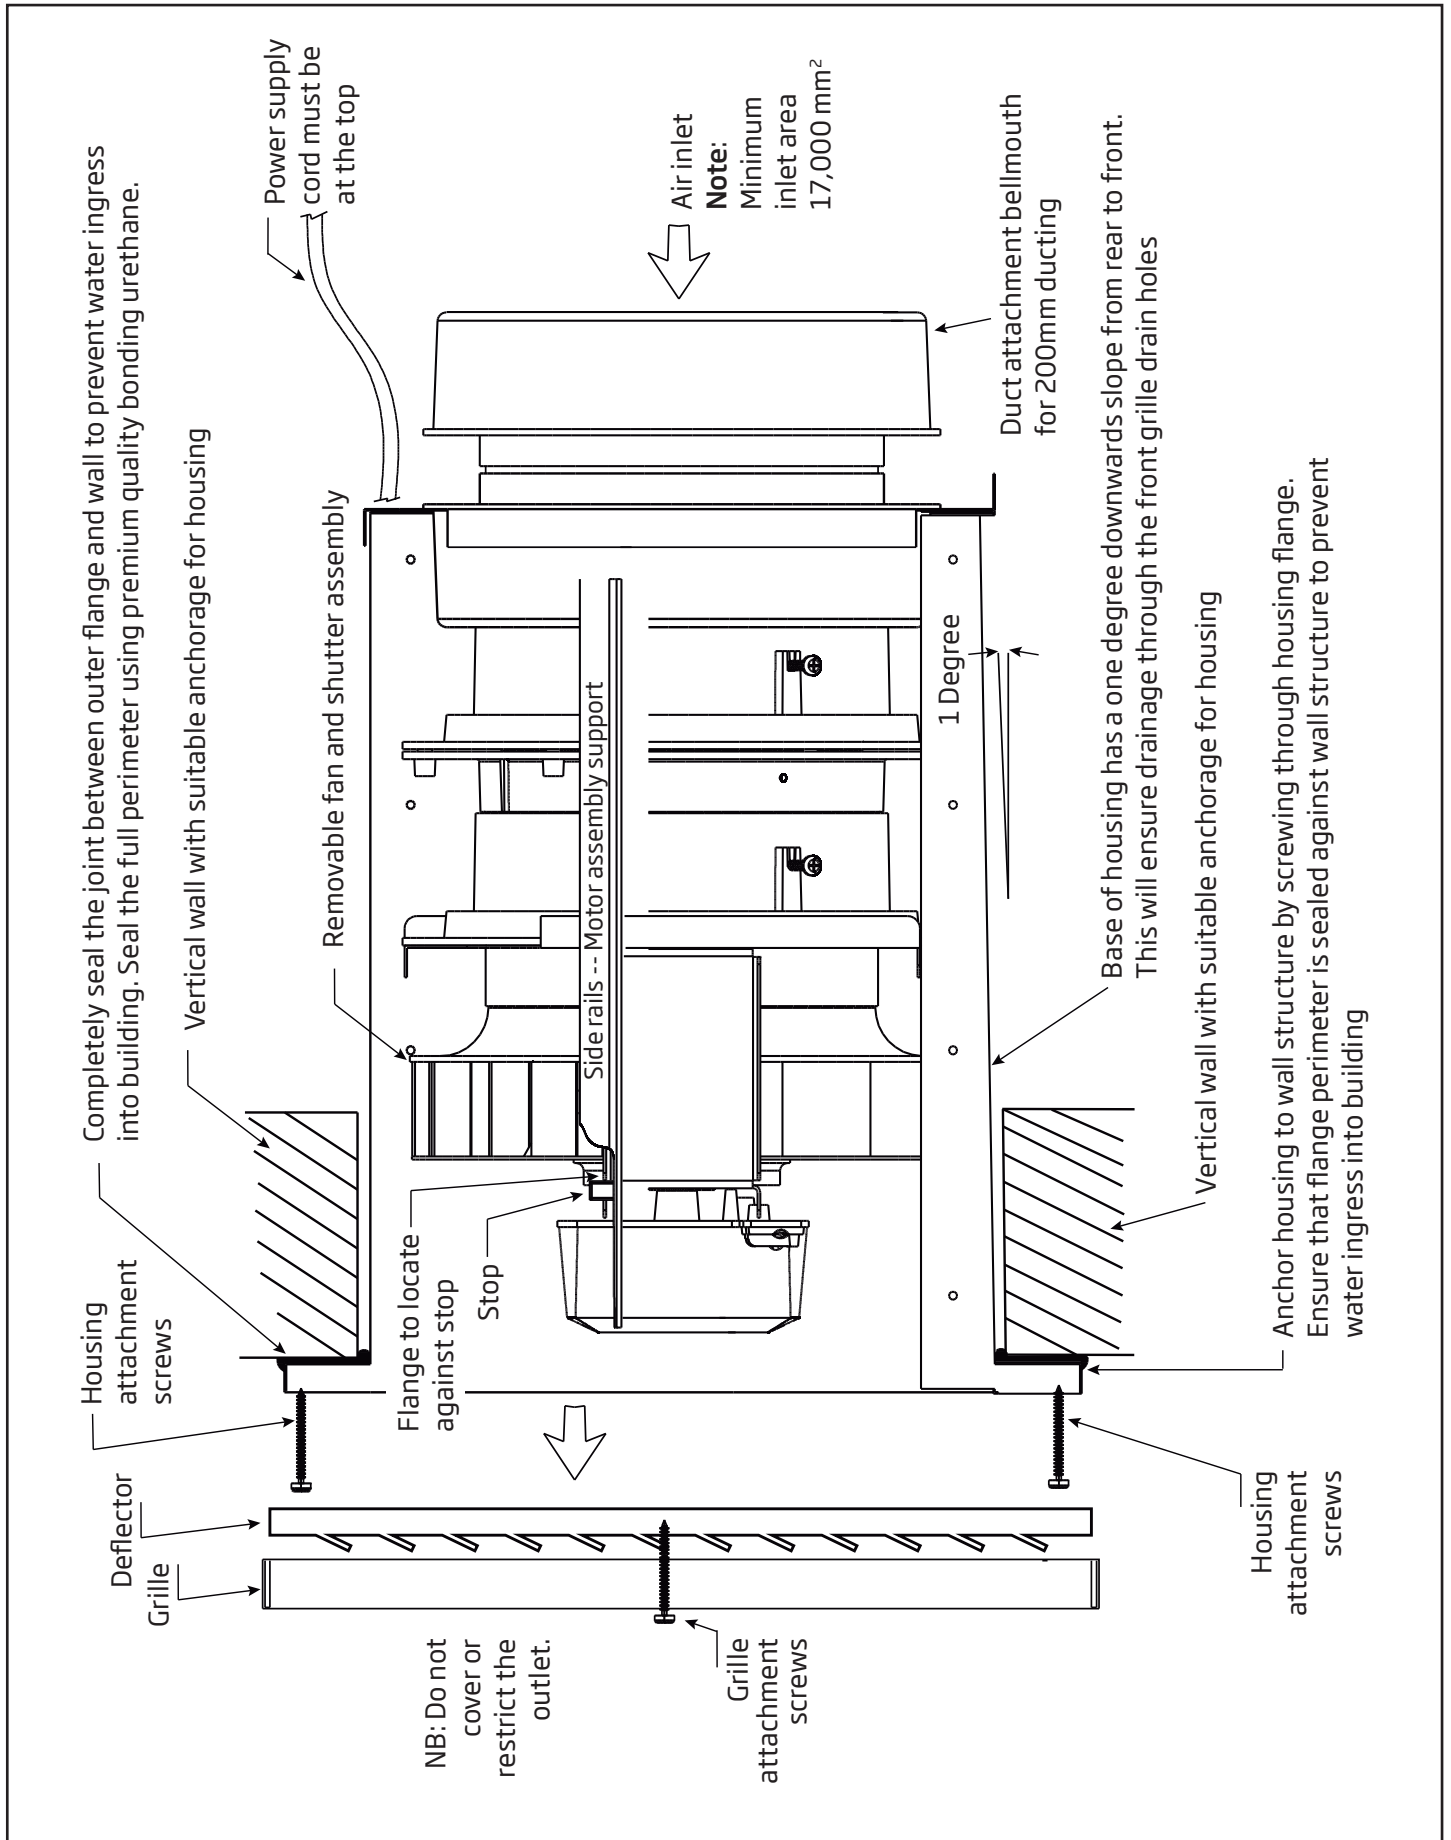
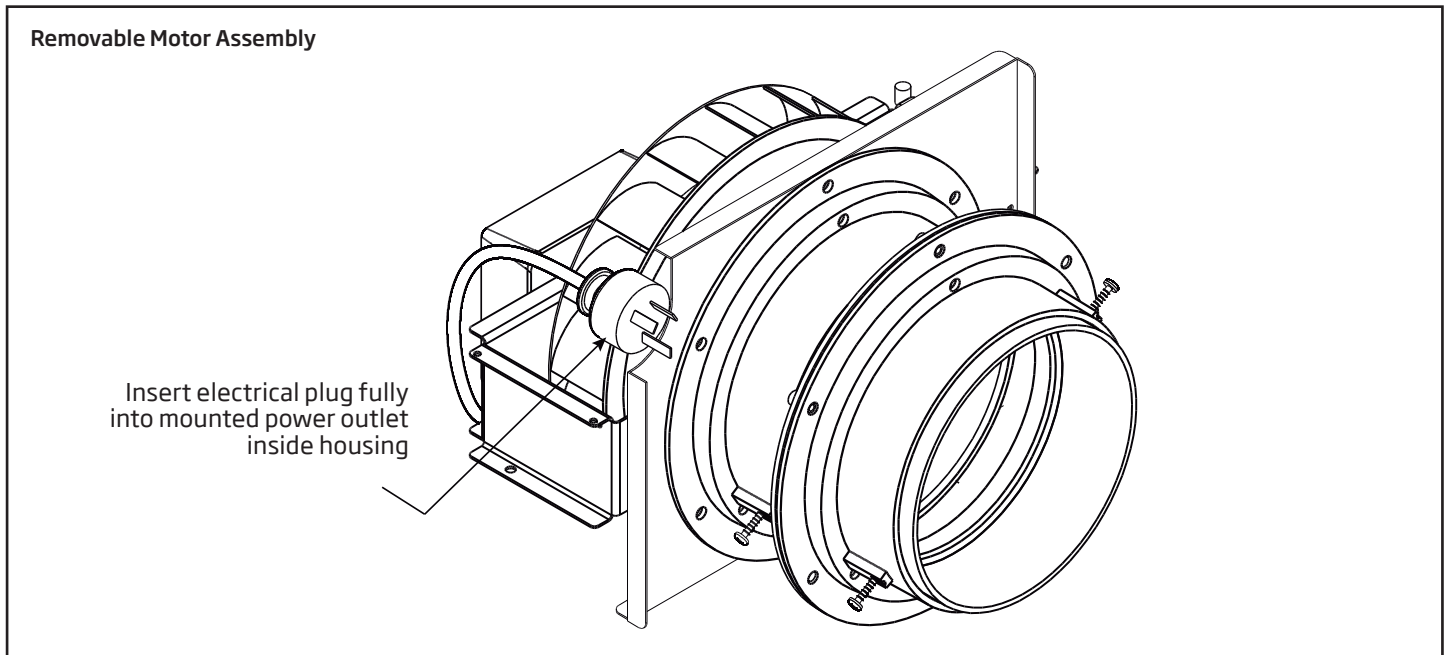
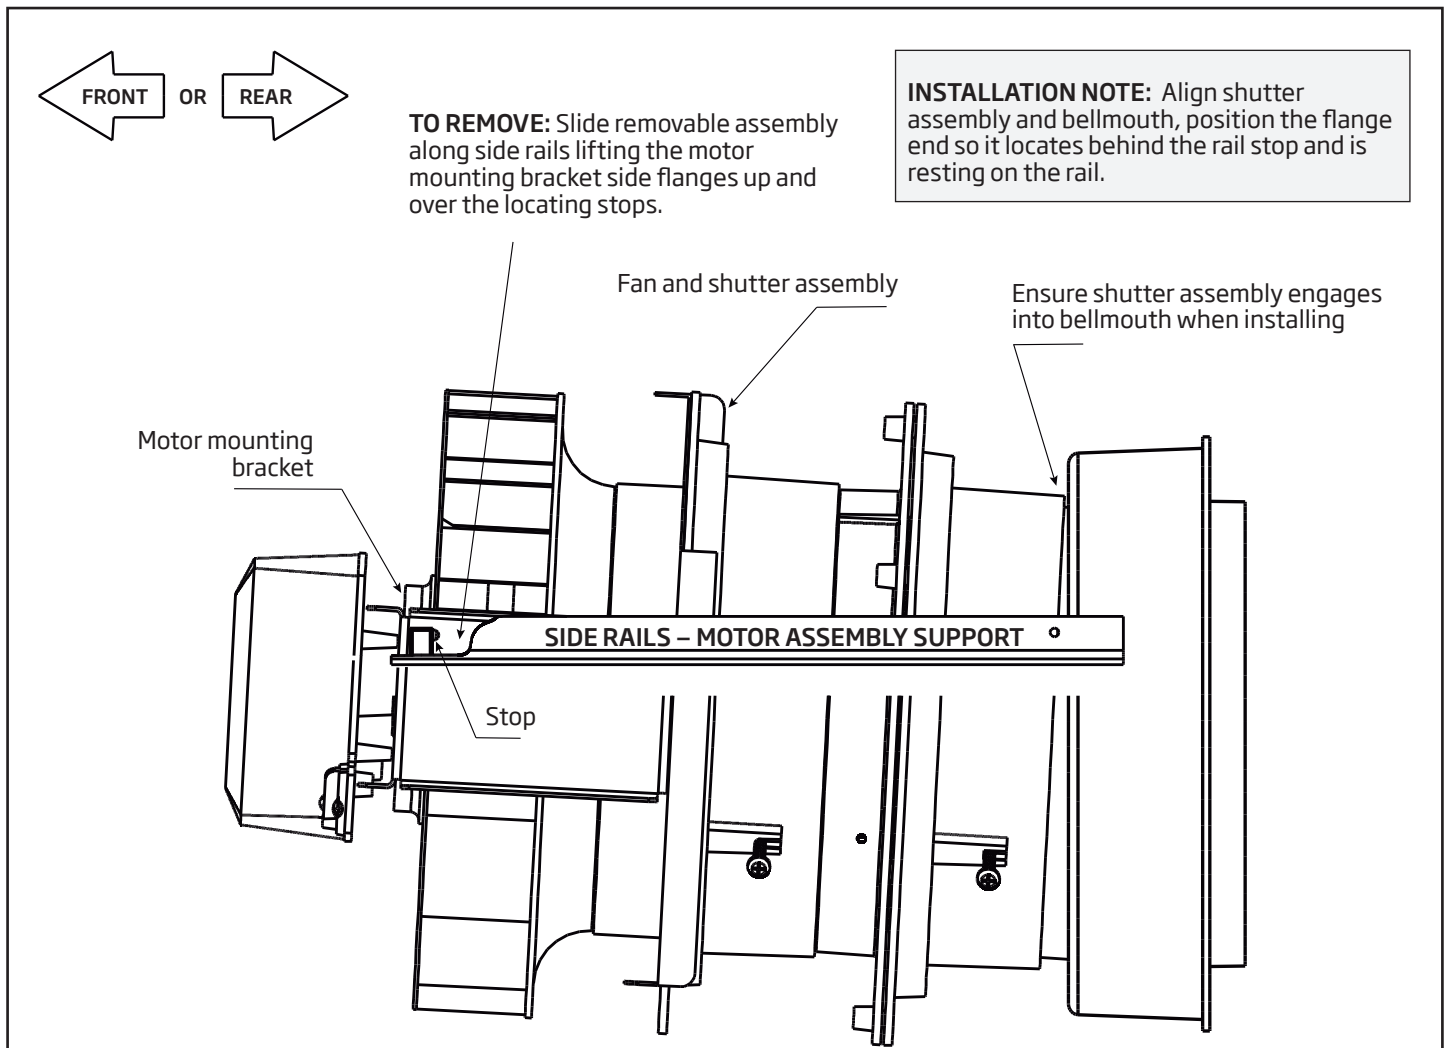
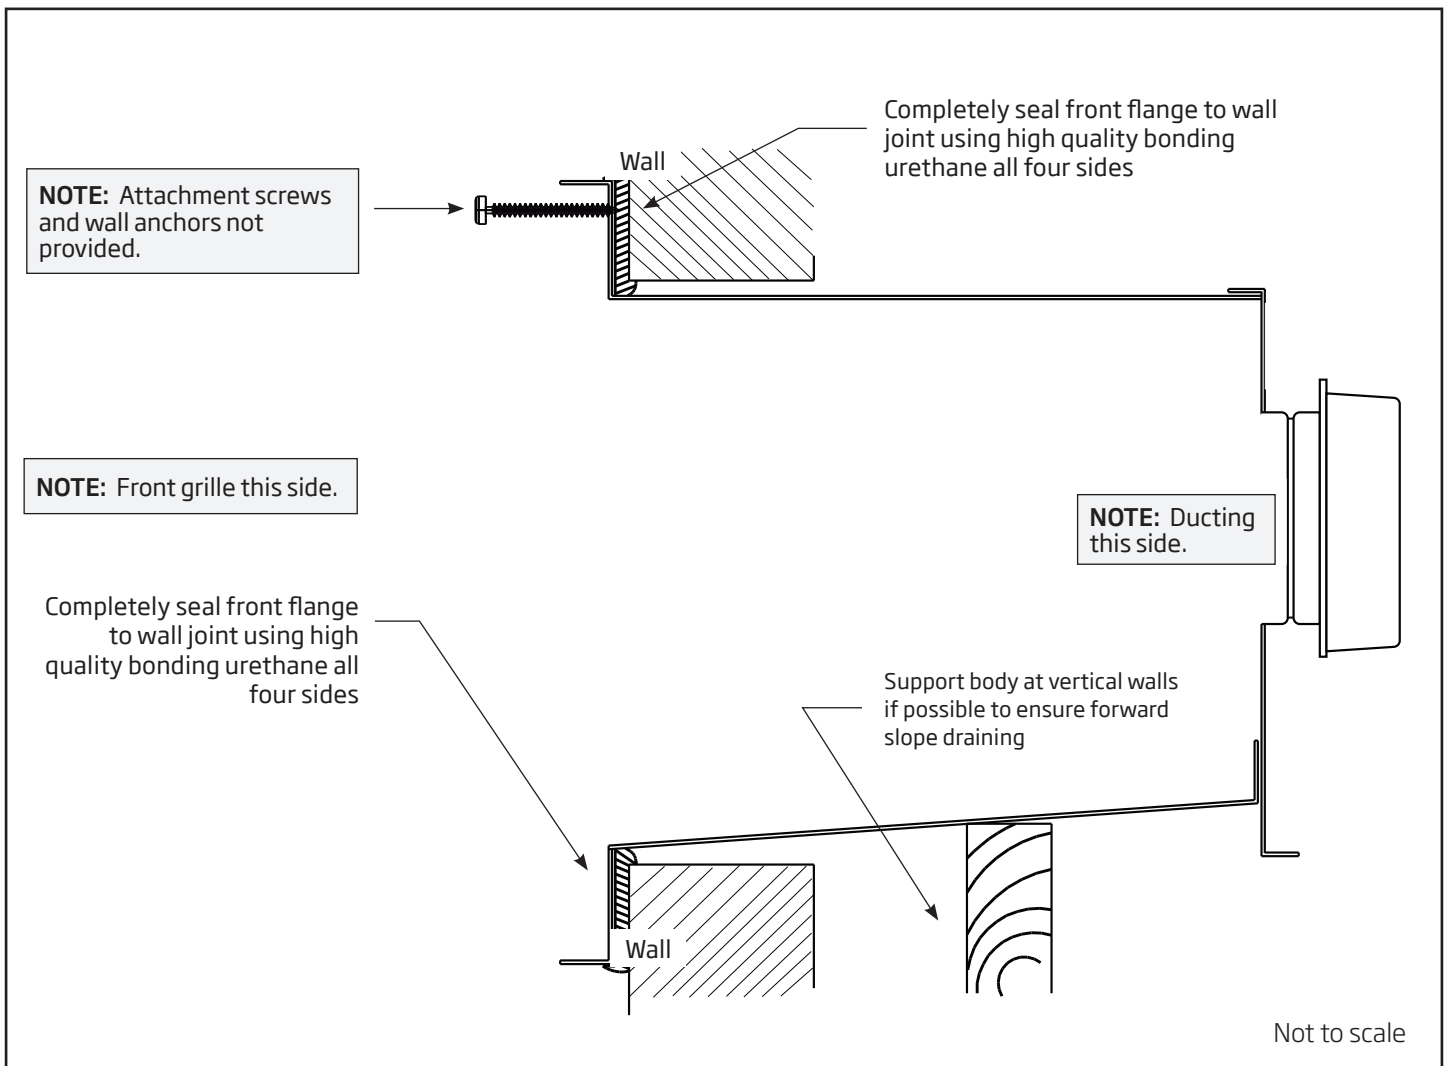

Figure 1A
Figure 1B
Figure 2
Figure 4
2. Undo the 2 screws holding front grille and the deflector, and remove them from housing (See figure 1A, pg.10).
4. Remove the motor from the housing and set safely aside before proceeding with the installation: Lift the motor mounting bracket side flanges up and over the locating stops and remove the motor assembly (See Figure 1B and Figure 2 on page 11).
6. To prevent water ingress apply a high quality adhesive sealant to the rear of the front flange of the motor housing, ensuring that the entire gap between flange and wall is sealed (See Figure 1A, pg.10; and Figure 4, pg.12) and secure motor housing to wall using 4 attachment screws (see figures 1A, 4, 5). Remove excess sealant that is extruded from the joint.
7. Once the motor housing has been screwed and fitted securely to the wall. Insert the motor assembly, making sure the internal electrical plug is connected into the mounted power outlet inside the housing (see Fig.1A, pg. 10, Fig.1B, & Fig.2, pg.11).